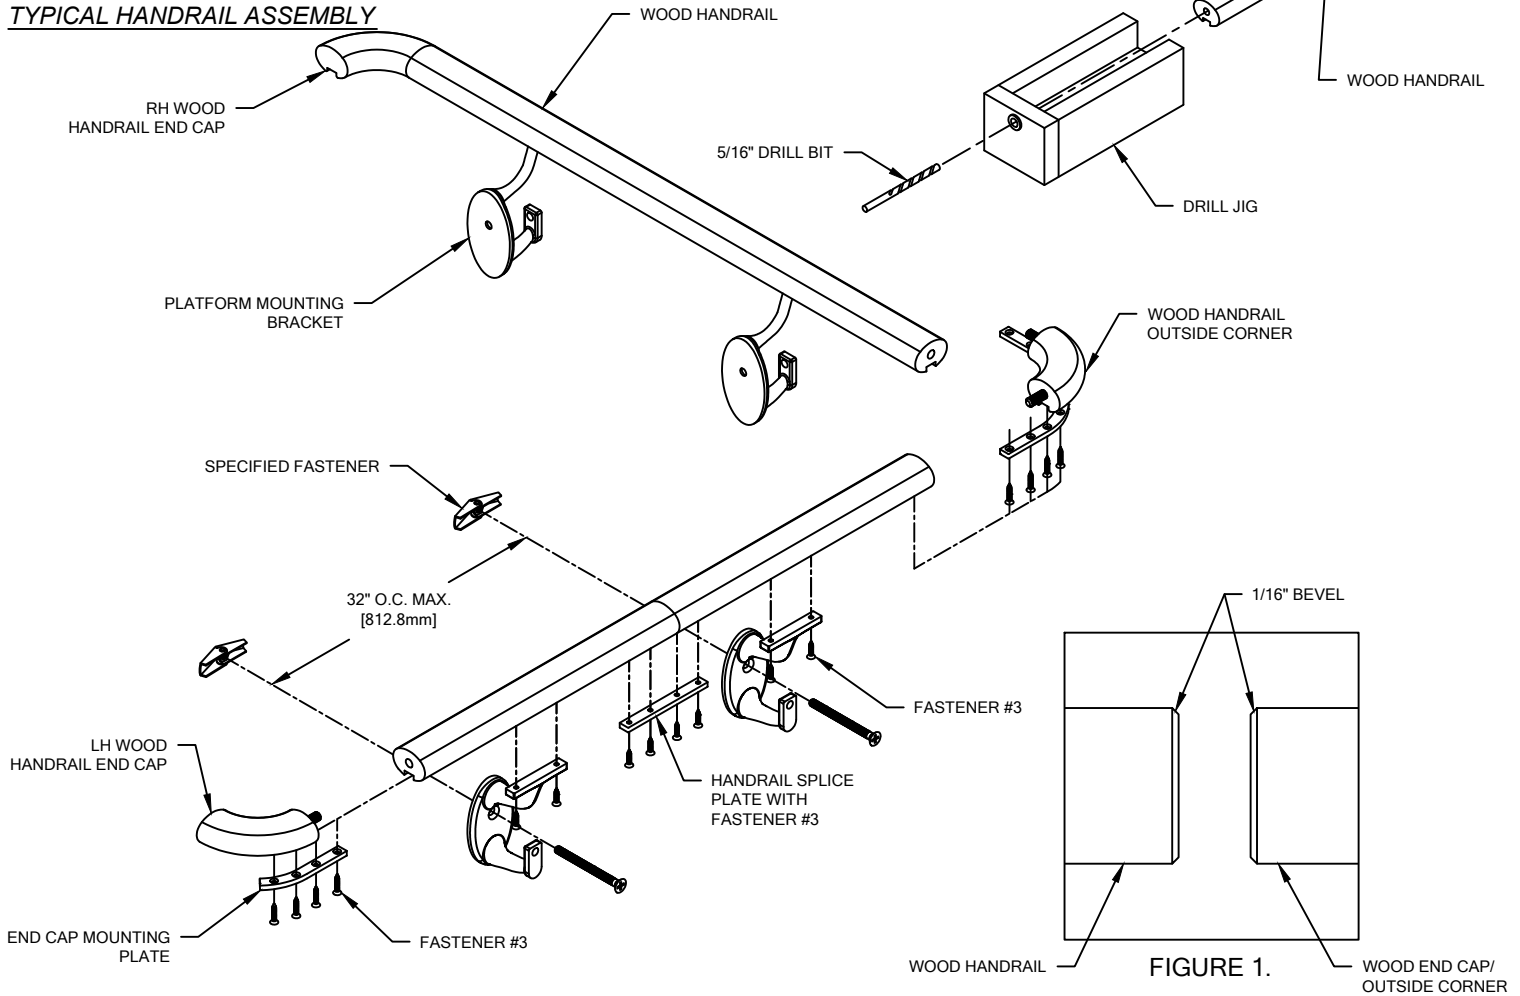

FIGURE 1.
1. DUE TO WOOD BEING A NATURAL PRODUCT, COMPONENTS MAY GROW AND SHRINK AT DIFFERENT RATES. BECAUSE OF THIS, CS HAS DESIGNED THIS HANDRAIL TO UTILIZE A BEVEL AS SHOWN IN THESE INSTRUCTIONS (SEE FIGURE 1). THIS BEVEL MUST BE APPLIED AT ALL WOOD JOINTS AND MUST MATCH FACTORY BEVEL ON END CAPS.
4. CUT THE WOOD HANDRAIL TO LENGTH USING THE REQUIRED DEDUCTIONS (REFERENCE LAYOUT VIEW). BEVEL THE HANDRAIL EDGES SLIGHTLY WITH 150 GRIT SANDPAPER TO MATCH THE WOOD END CAP BEVEL (SEE FIGURE 1 ABOVE). TOUCH UP SANDED EDGES WITH STAIN MARKER.